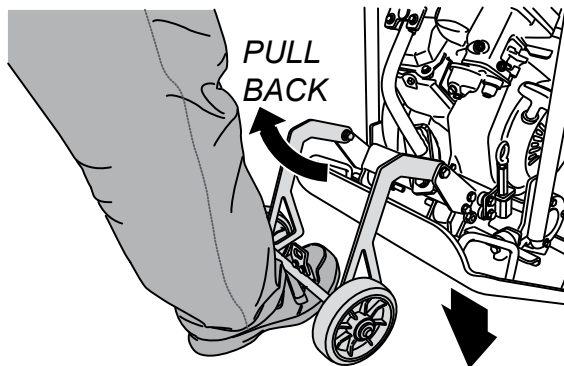

Figure 13. Pulling Back Axle (Foot)
2. Once the wheels have been positioned away from the rear of the compactor, place your foot (Figure 13) under the axle bar and pull back axle until the plate touches the ground.